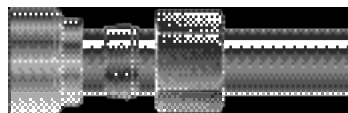

Figure 1
2. Assemble CPI™ nut, CPI™ Ferrule and body die onto tubing as shown in figure 1. Be sure that the tapered end of the Ferrule points toward the body die. (Silver plated nuts only - a thin coat of Permatex anti-seize lubricant is recommended on the nut threads and back collars.)
3. Insert Tube Assembly, (Figure 1) into Nut Support as shown in Figure 3.